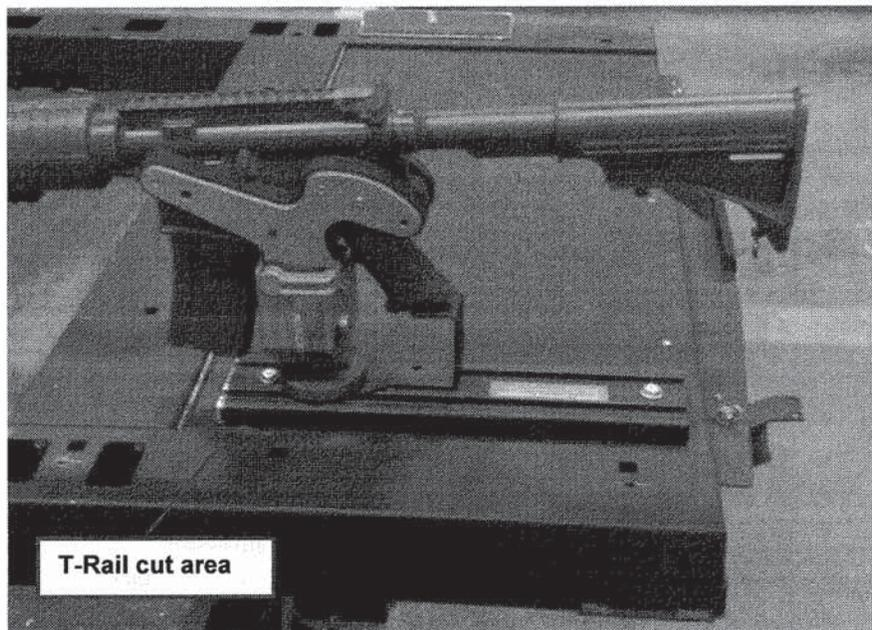

Figure 33 – Example of Blac-Rac™ T-Rail and Blac-Rac™ Model 1080M with integral lock on the D&R Electronics® - Electronics Sub Panel Mount
- c. Blac-Rac™ Model 1080M with Integral Lock:** This secure rack-type PCVSS is currently one of the three models approved for Police Interceptor Utility marked MP vehicle and is illustrated at *Figures 33 and 34* below:
- (1). Installation of this secure rack-type PCVSS requires the Blac-Rac™ Model 1080M Tactical Weapons Rack with Integral Lock and Blac-Rac™ T-Rail System;
- (2). In this configuration the rack is supplied with an integral high security double-sided (Pagoda style) cam lock. The rack is normally delivered with two identical keys (*Note: This is a proprietary lockset so extra keys cannot be made or copied locally. Key copying and re-keying can only be done by the manufacturer*);
- (3). The rack ***shall*** be installed on the T-Rail System which will be installed on the equipment tray in such a manner that the carbine is held horizontally; and
- (4). T-Rail System ***shall*** be cut to ensure it allow the D&R Electronics® - 933-0092A Cabinet Subframe with Electronics Sub Panel Mount to open.